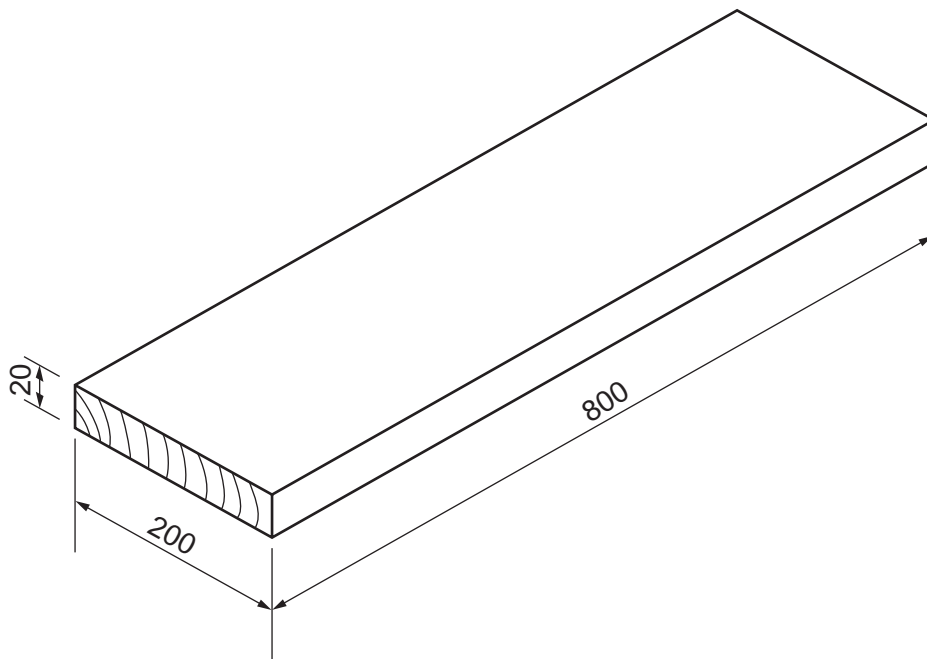

Fig. 8
- 3 Fig. 8 shows a solid wooden shelf to be mounted on a wall.